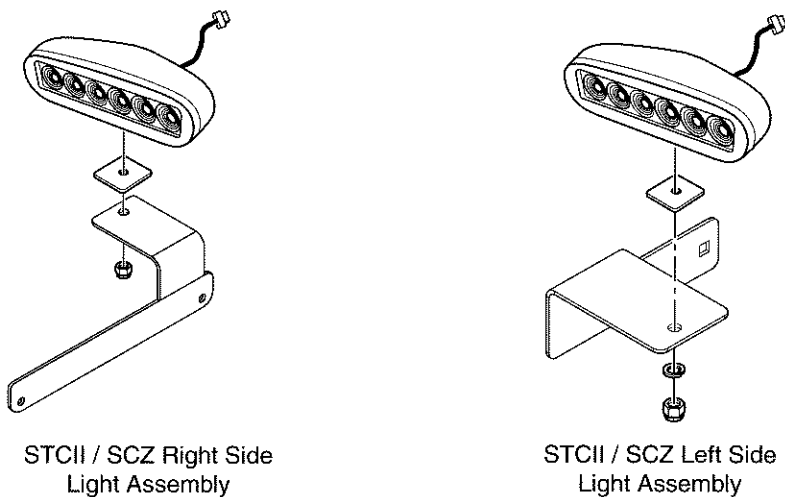

Figure 2. Assemble Lights to Mounting Brackets
3. Install (1) one light assembly and (1) one shock mount pad to each of the machine mounting brackets and secure using the 5/16-18 x 3/4" bolt(s) installed in the previous step, and (1) one 5/16-18 elastic stop nut. See Figure 2. Do not tighten hardware at this time.